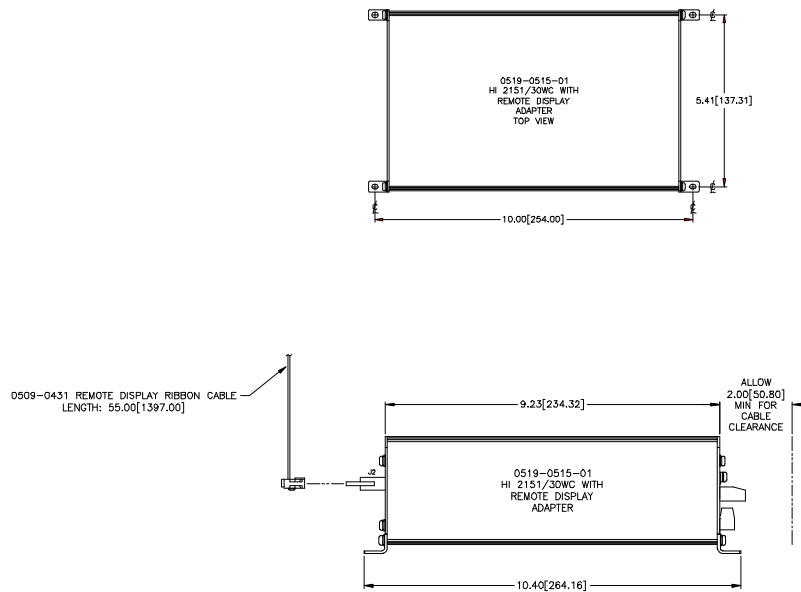

FIG. 3-5 INSTALLING ELECTRONICS ENCLOSURE TO A PLATE
- Step 1. Drill four (4) .156 inch tapped or thru holes and use four (4) 6-32 pan head machine screws to fasten the instrument enclosure to a panel. (See Fig.3-5)